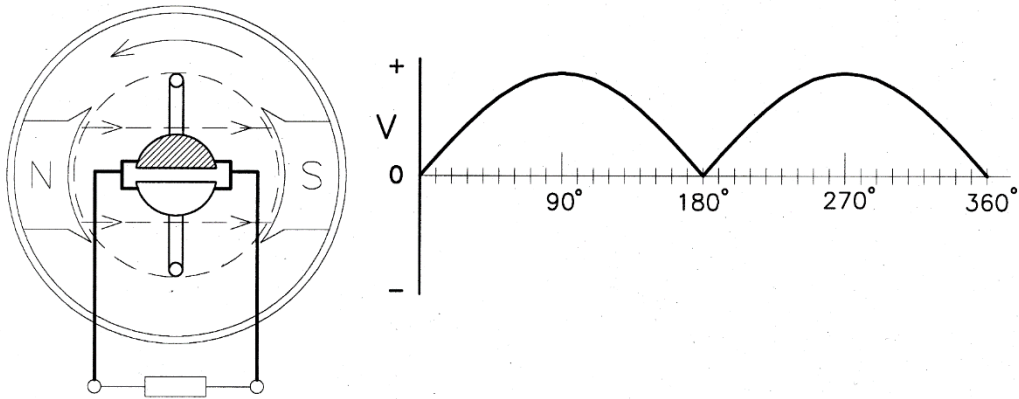

Figure 40. Coil rotating in a magnetic field
18. The frame provides mechanical support for the pole pieces and acts as part of the magnetic circuit providing the necessary flux across the air gap as shown in Figure 40.
19. Figure 40 shows the magnetic circuit within a d.c machine. The magnetic circuit consists of a series path through the yoke, field poles, air gap and armature. The magneto motive force created by the field coils must be strong enough to force the magnetic flux to flow throughout the magnetic circuit.